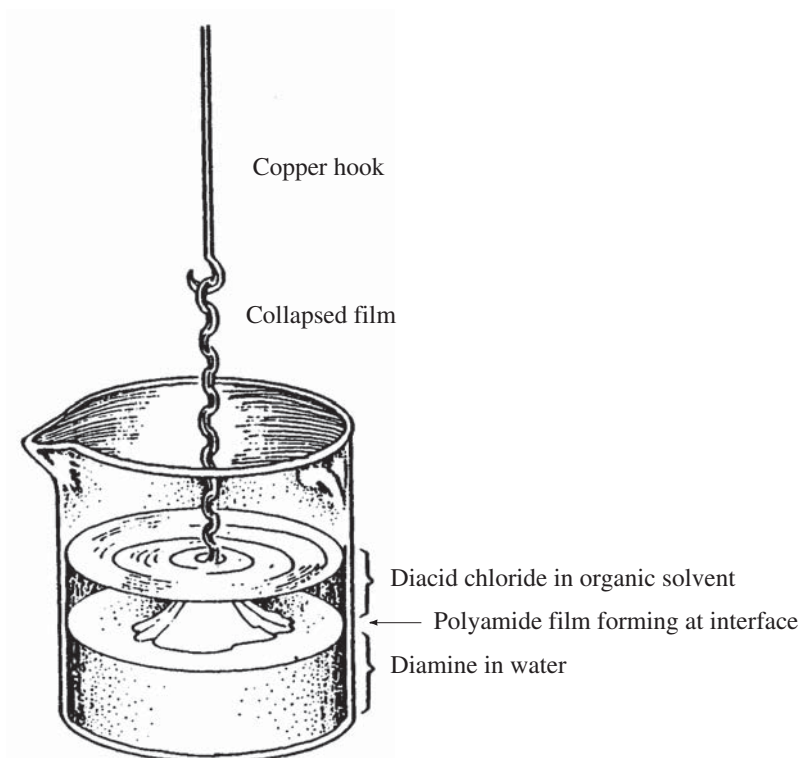

Figure 29.1
3. Take 10 mL of 5% adipoyl chloride solution in cyclohexane, using a pipet or syringe. Layer the cyclohexane solution slowly on top of the aqueous solution in the beaker. Two layers will form and nylon will be produced at the interface (Figure 29.1).